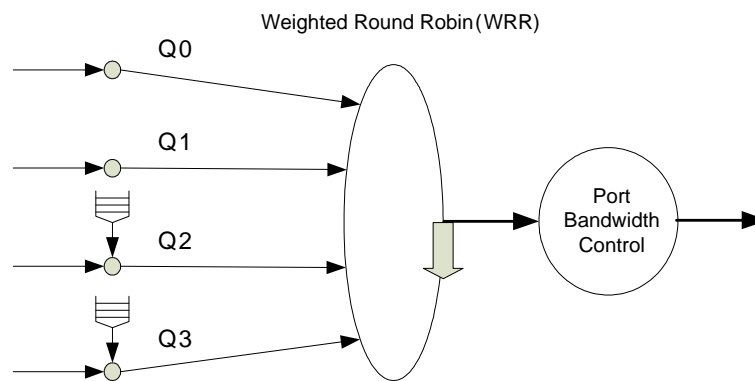

Figure 17. Packet-Scheduling Diagram
- Type I leaky bucket, which specifies the average rate of one queue (see Figure 17; only Q2 and Q3 have leaky bucket, Q0 and Q1 do not). The queue rate can be configured from 0kbps to the line rate in steps of 64kbps
In addition, the RTL8306MB can select one of the two sets of packet-scheduling configurations according to the packet-scheduling mode. Figure 17 shows the RTL8306MB packet-scheduling diagram.